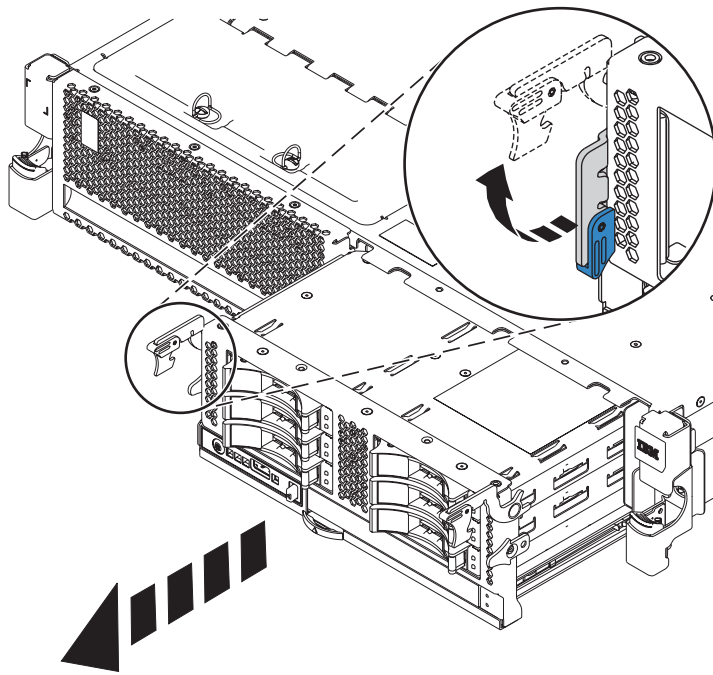

Figure 41. Removing the disk drive cage
- b. Grasp the handles and pull the disk drive cage toward you. See Figure 41.